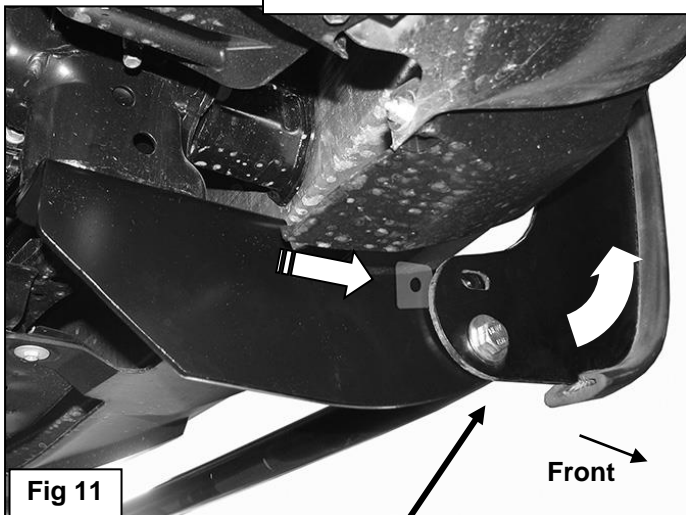

Fig 11
14. Insert (1) 12mm Plastic Washer between the Mounting Bracket and the Grille Guard. Line up the Grille Guard, Washer and Bracket and bolt together with the included (1) 12mm x 35mm Hex Bolt, (1) 12mm Lock Washer and (1) 12mm Flat Washer, **(Figure 11)**.
16. Use the (2) previously installed 12mm Hex Bolts as a hinge. With assistance, carefully rotate the Grille Guard up to the vehicle, **(Figure 11)**. Line up the two remaining holes in the Mounting Brackets with the holes in the Grille Guard. Repeat **Steps 13 & 14** to attach the Grille Guard to the Brackets, **(Figure 12)**. Snug but do not tighten hardware at this time.